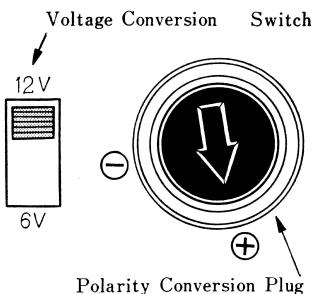

Fig. 4-2
2. Positive battery terminal grounded: Fig. 4-2